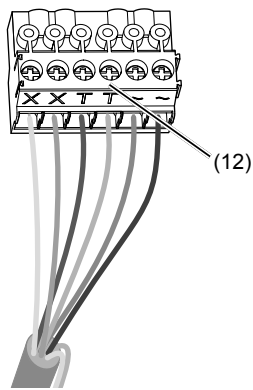

Figure 7: wired connection terminal block
- Connect door release to the terminals **TT** of the connection terminal block (figure 7 and 8) if required.
- For call push-button backlighting connect 12 V~ lead from the power transformer to the terminals **~** of the connection terminal block (Figure 7 - 9).